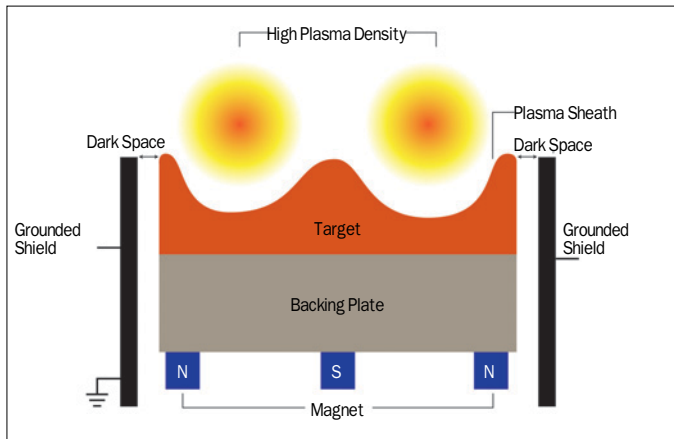

Figure 1. PVD sputtering uses plasma to remove material from a target on a cathode and deposit the material onto a substrate.
PVD (sputtering) is a common deposition method for thin-film manufacturing that uses plasma to remove material from a target on a cathode and deposits the material onto a substrate (Figure 1). In recent years, thin-film solar has leveraged time-tested plasma processing developments from flat panel display manufacturing. Similar materials are deposited in both applications, including metals, dielectrics, and TCOs. This article focuses on Direct Current (DC) sputtering for thin-film solar applications and how power delivery management can improve product quality and process control.